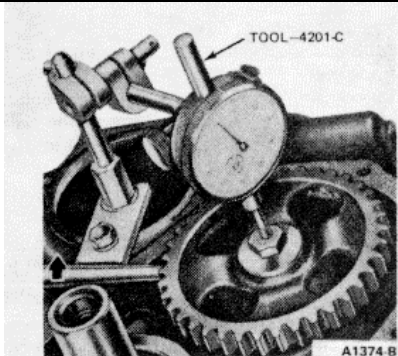

FIG 46 Checking Camshaft End Play
13. Push the camshaft toward the rear of the engine. Install a dial indicator so that the indicator point is on the camshaft sprocket cap screw (Figure 46). Zero the dial indicator. Position a large screwdriver between the camshaft sprocket and the block. Pull the camshaft forward and release it. Compare the dial indicator reading with specifications. If the end play is excessive, replace the thrust plate.